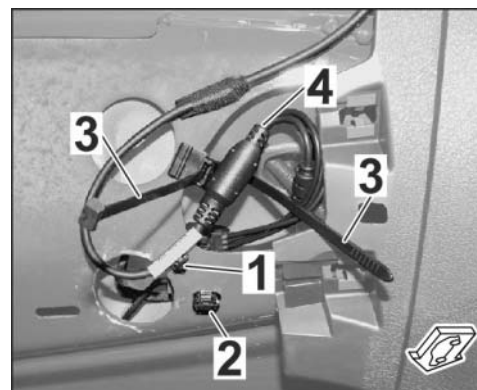

Figure 23
- 3.6.6 Position both lines in the rear lid cavity and install the relevant retaining clip into the tailgate. ⇒ *Figure 23*
- 3.6.7 Install tie-wrap (⇒ *Figure 23 -3-*) in the cut-out in the tailgate. Secure the remaining line in the Y-splitter area with a tie-wrap.